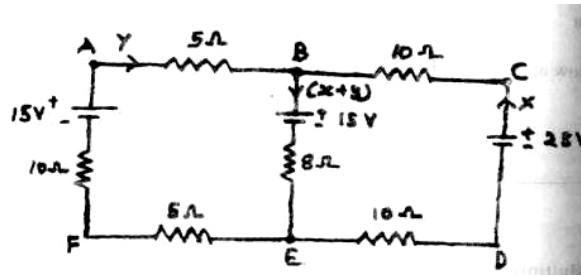

Fig. 2.11
3. Find the current in each branch of the given network shown in fig.2.11 below.